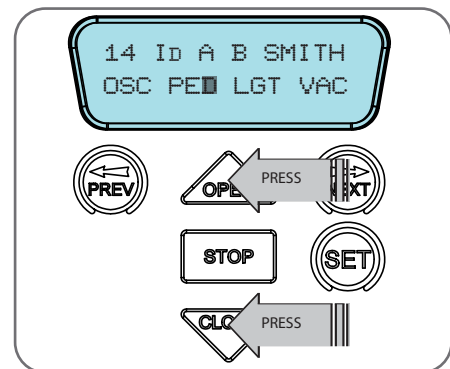

Fig F.2
- Press OPEN or CLOSE to change the displayed value (**Fig. F.2**). The available functions are shown below. Selecting OFF will prevent the opener responding to that button.